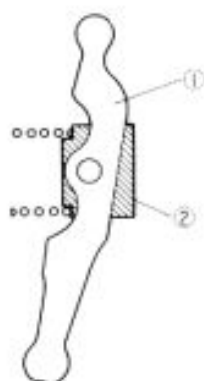

Fig. 23-24
When installing lever ① in the shift lever case, be careful of its installing direction referring to Fig. 23-24.